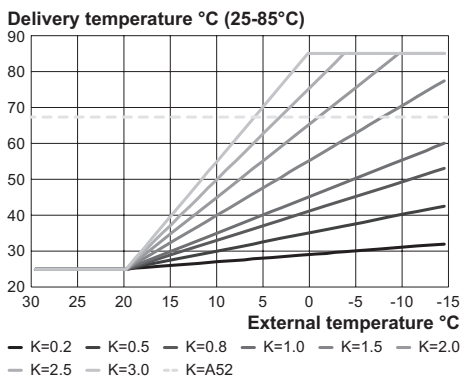
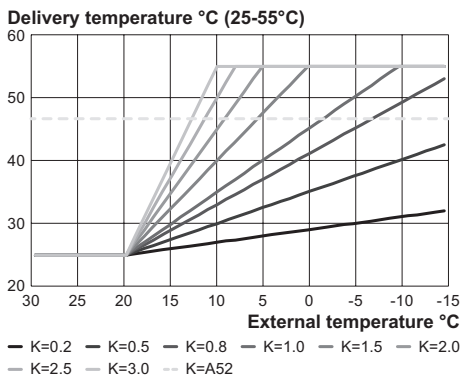
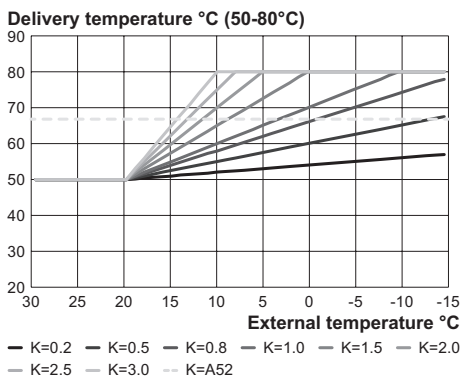

Fig. 8.6
Fig. 8.7
Fig. 8.8
With heating temperature setting **25-85°C** (Fig. 8.6) (factory set) or temperature setting **25-55°C** (Fig. 8.7) or temperature setting **50-80°C** (Fig. 8.8) (see "Selecting the heating temperature set" on page 65).
- Using buttons 15 or 16 it is possible to change the value of parameter P08 from a minimum of **1.0** to a maximum of **3.0** based on the selected curve of the K coefficient in Fig. 8.7 (the value read on the display corresponds to the decimal values of the K coefficients).